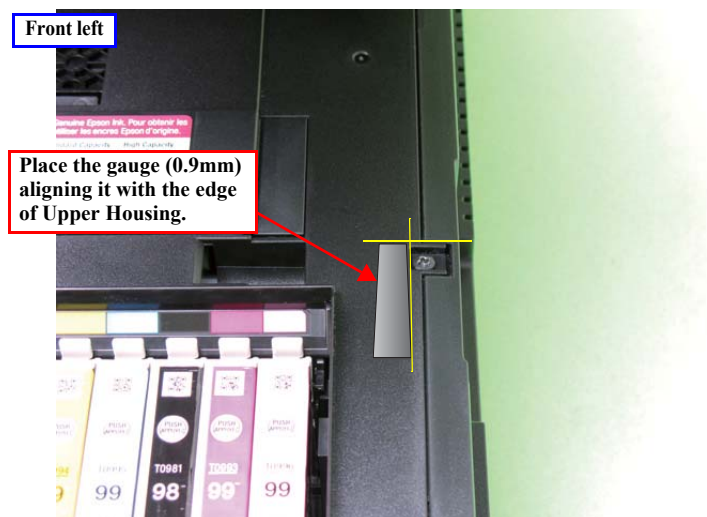

Figure 5-20. Placement of the Thickness Gauge
5. Place the thickness gauge 0.9mm on the location described in Figure 5-20.